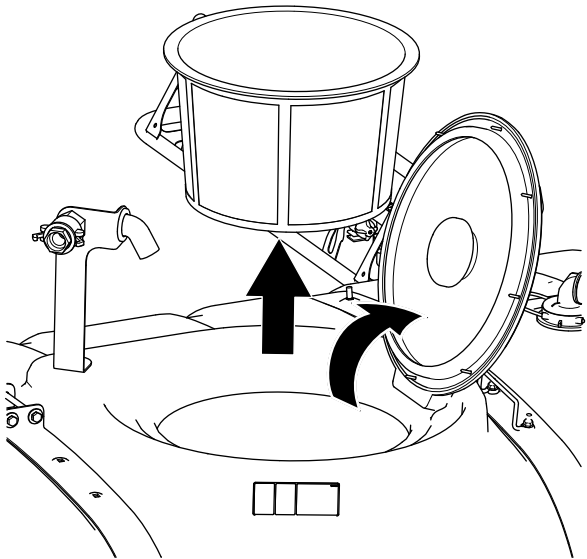

Figure 16
- 1. Open the tank lid and remove the strainer basket (Figure 16).